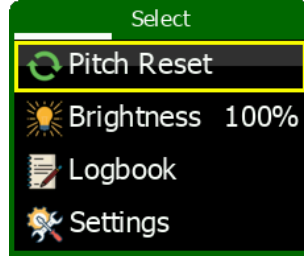

Figure 26: Illustration of Horis main menu. The Pitch Reset option is the default one. Slave Horis menu is slightly different.
- Open the main menu by pushing the knob for a few seconds. The **Pitch Reset** option is selected by default. See Figure 26.